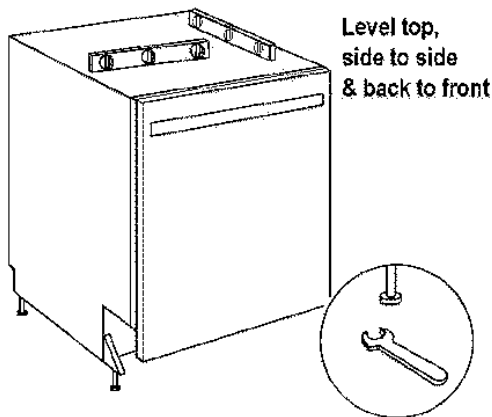

FIG 13
- 4 Check that dishwasher is level from side to side by placing a level against the top front section of the tub. See Figure 13.